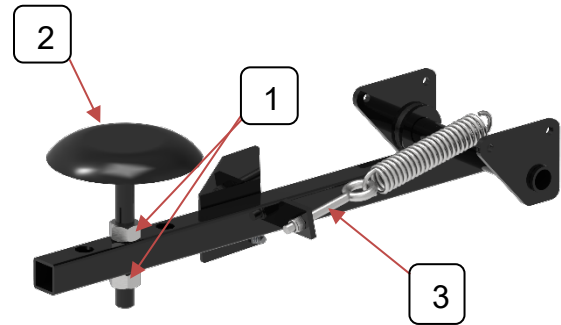

Fig. 6.2
1. Loosen nuts, 1 (Figure 6.2) on threaded rod.
1. Remove bottom nut, (#1 Figure 6.2) off threaded rod.
2. Place bale button, (#2 Figure 6.2) into desired hole
Check bale trigger spring tension (#3 Figure 6.2) every 50 hours or weekly. Adjust, if necessary.